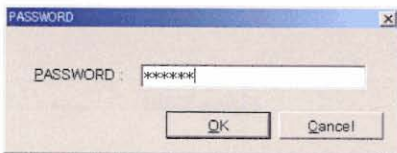

Figure 5-203
- 5) When the password screen appears, enter the 6-letter word "market" and then click [OK]. (See Figure 5-203.)